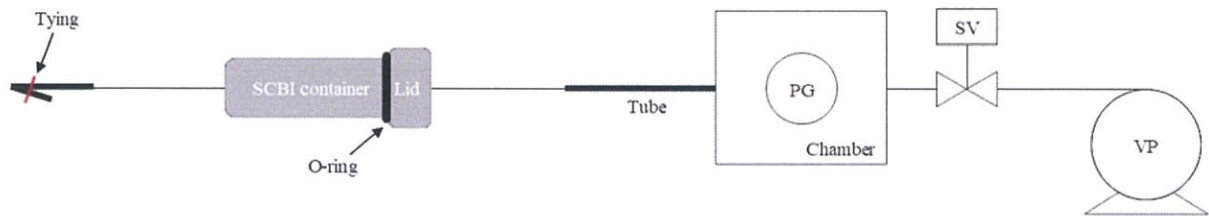
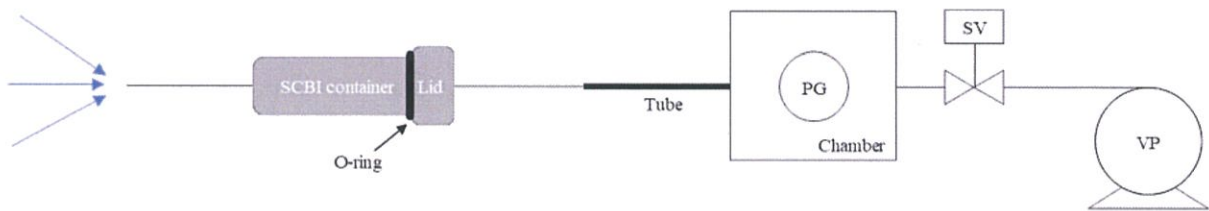

Figure 2.1 Apparatus of lumen leak-tight test for the lumen
Figure 2.2 Apparatus of lumen open test without blocking
- (1) One side of lumen was directly connected to the test chamber which is connected to a vacuum pump (VP) via solenoid valve (SV) as depicted in Figure 2.1. Another side of lumen was blocked.
- (2) The pressure data logger (PG) was located inside the test chamber.
- (3) After sufficient pumping, the solenoid valve was closed in order to isolate the lumen and chamber system.
- (4) If the lumen is leak-tight, the pressure raising rate after closing the valve is almost zero.
- (5) The time evolutions of the pressure were recorded. (The criterion is less than  $0.1 \text{ Torr} \cdot \text{s}^{-1}$ .)
- (6) Same tests without blocking one side of the lumen were conducted to clarify that there is no blockage in the lumen channel as described in Figure 2.2.